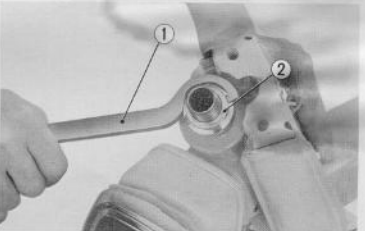

Fig. 4.35 Removing steering head top thread (CT 90)
6. Using a 36 mm hook spanner ① (Tool No. 07072~00101) remove the steering head top thread ②. (Fig. 4.35)
7. The front fork ① can be removed together with the front cushions by sliding out the bottom.